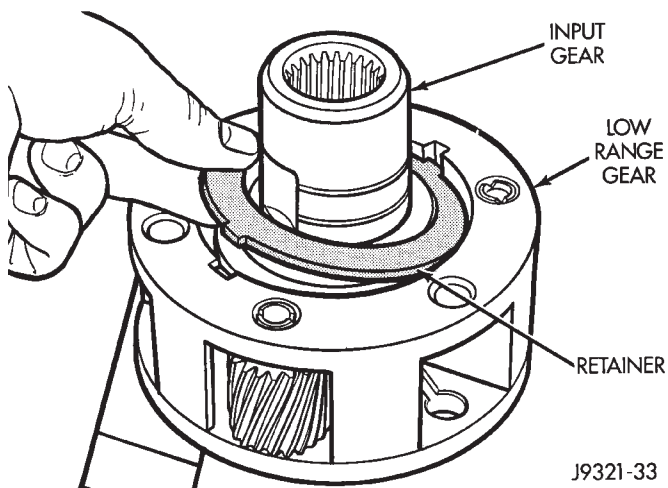

Fig. 36 Input Gear Retainer Removal
- (2) Remove retainer (Fig. 36).